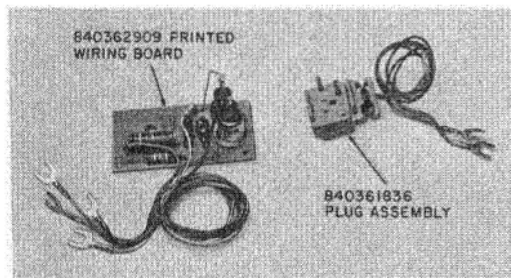

Fig. 18—**PD-180463 Kit of Parts—Station Busy Lamp Feature**
2.28 To provide station busy lamp feature with early production telephone sets equipped for both handset and headset operation and 590- and 650-series keys install a 840362909 Printed Wiring Board Assembly, ordered separately, (Fig. 18). The printed wiring board assembly is provided with adhesive backing to permit mounting on any clean, flat surface.
2.29 To provide station busy lamp feature with current production telephone sets equipped for both handset and headset operation and 635-type keys, a D-180463 Kit of Parts consisting of an 840362909 Printed Wiring Board Assembly and 840361836 plug assembly, ordered separately, must be installed (Fig. 18).